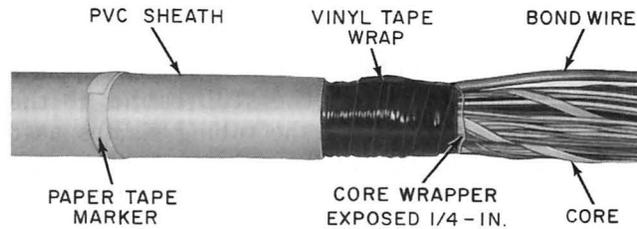

Fig. 7—Vinyl Tape Wrap
5.07 Remove the core wrapper to within 1/4 inch of the vinyl wrap (Fig. 7).